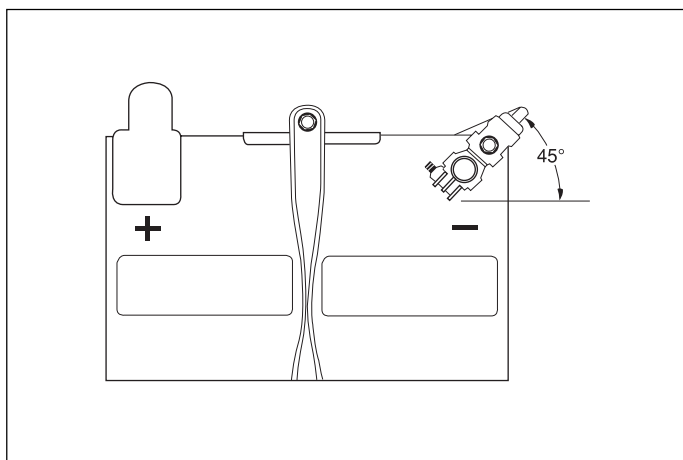

Fig. H10
- ➔ 9. Reconnect the vehicle's negative battery cable at a 45° angle. (Fig. H10)